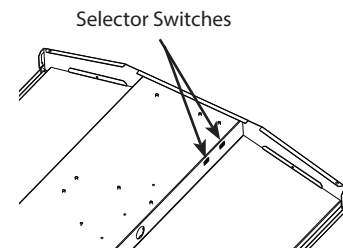

Fig. 5
1. Locate the **Selector Switches** on the side of the driver as shown in Fig 5.